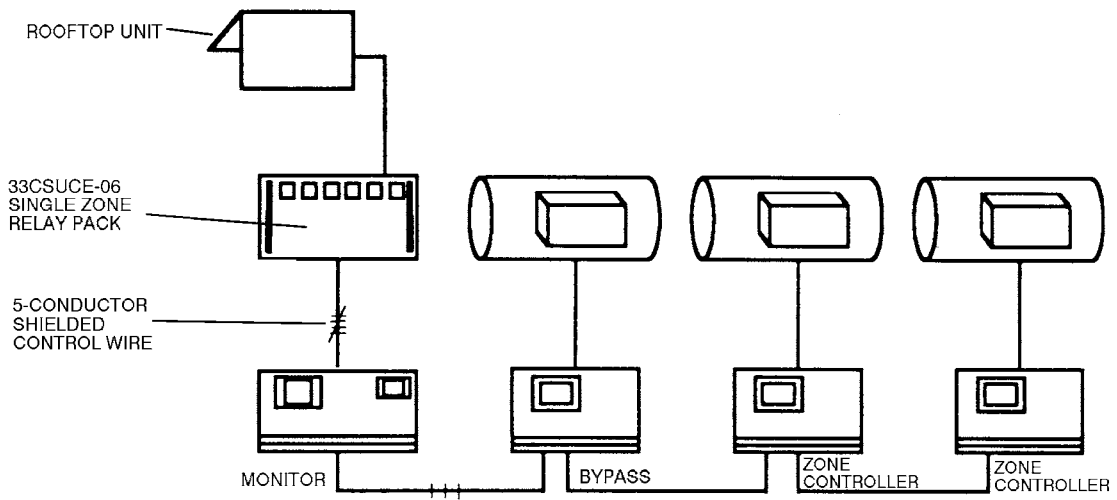

Fig. 18 — Monitor Only System Configuration (Monitor Does Not Control Damper)
- determine the system requirements for heating and cooling based on the information gathered from the associated zone controllers. See Fig. 18.